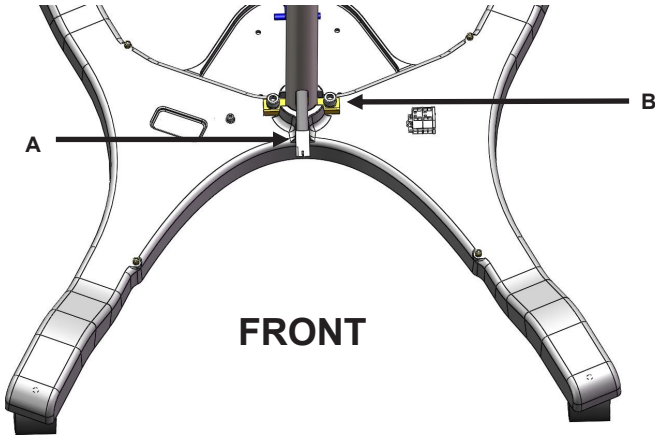

Figure 9: Post attachment bar.
11. Insert the post into the hole in the base. Slide the attachment bar through the square slots in the post. When inserting the post, make sure the wires (A) are facing the front of the base and **NOT** towards the transformer.
12. Align the holes of the attachment bar with the holes on the base (B). Refer to Figure 9.